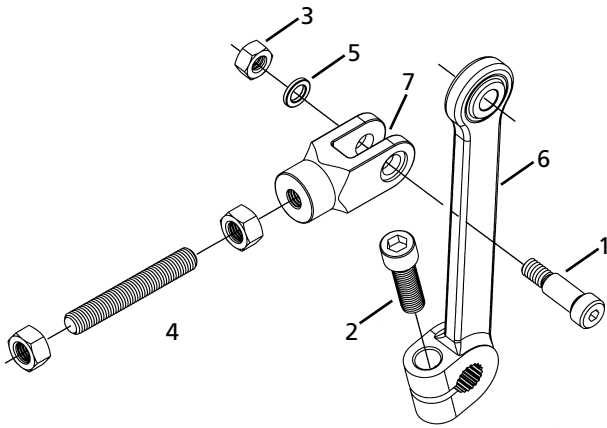

Figure 4
4. Shift Linkage Kit, (57-4750). **See Figure 4 on pg 8.**